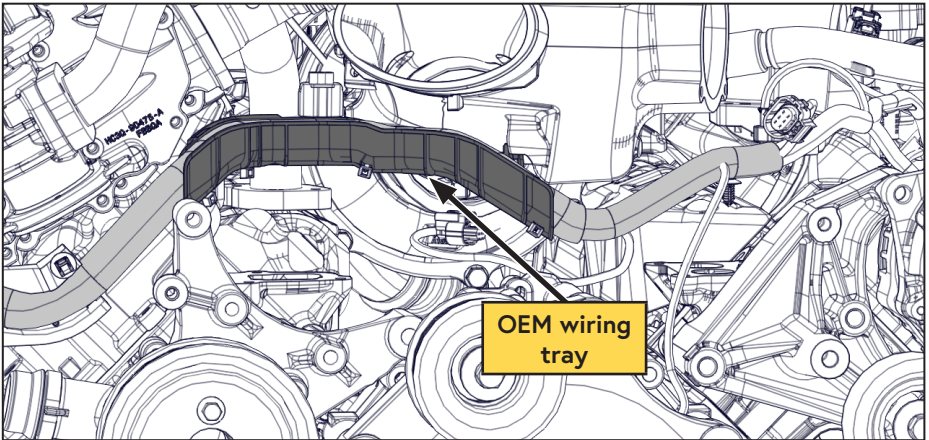

Figure 8 — OEM wiring tray
- Cut the cable ties securing the OEM wiring bundle to the wiring tray. Use a 10 mm socket to remove the wiring tray. Retain the wiring tray and bolt as they will be reused later (Figure 8).